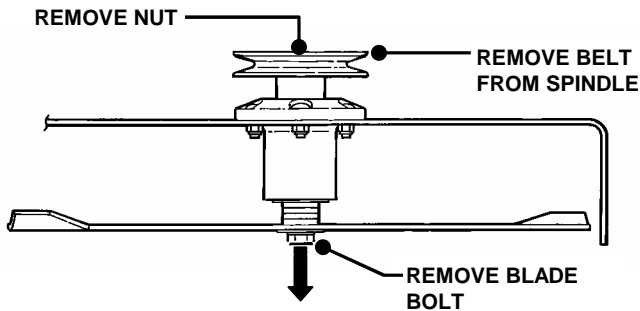

FIGURE 5.10
1. Remove belt. Loosen blade nut and remove. Allow blade bolt, washer, blade and four spacers to drop down out of the spindle housing. See Figure 5.10.